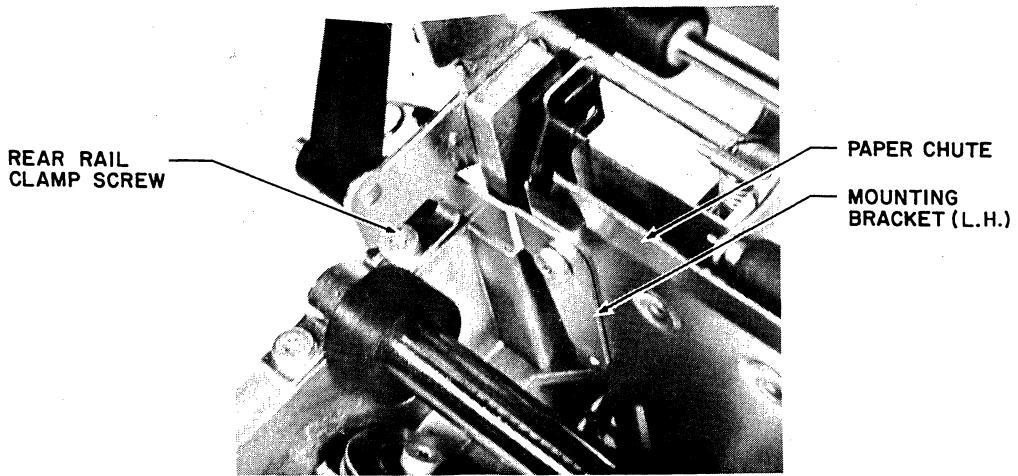

Figure 5-42 UPPER PAPER CHUTE MOUNTING BRACKET INSTALLATION
6. Return the printer to its upright position. Study Figure 5-42. The top of the paper chute is held in place with two mounting brackets
with the left hand bracket installation being shown in Figure 5-42. Loosen the rear rail clamp screw at each end of the rear carriage rail. Each bracket is installed by working it in under the platen paper bail mechanism, with its slotted end under the carriage rail clamp screw and its lower tab inserted in the slot provided near the edge of the paper chute itself. Each bracket is then fastened to the paper chute with an 8-32 x 1/4" thread forming screw.